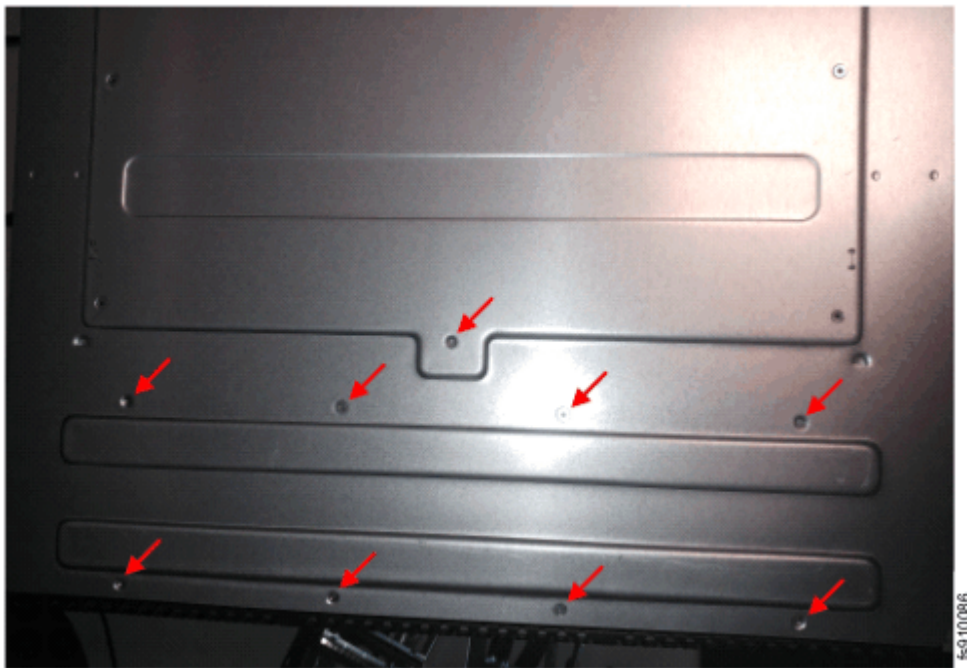

Figure 57. Location of the screws on the underside of the control enclosure
13. Remove the nine screws from under the front of the enclosure (see Figure 57 on page 93).